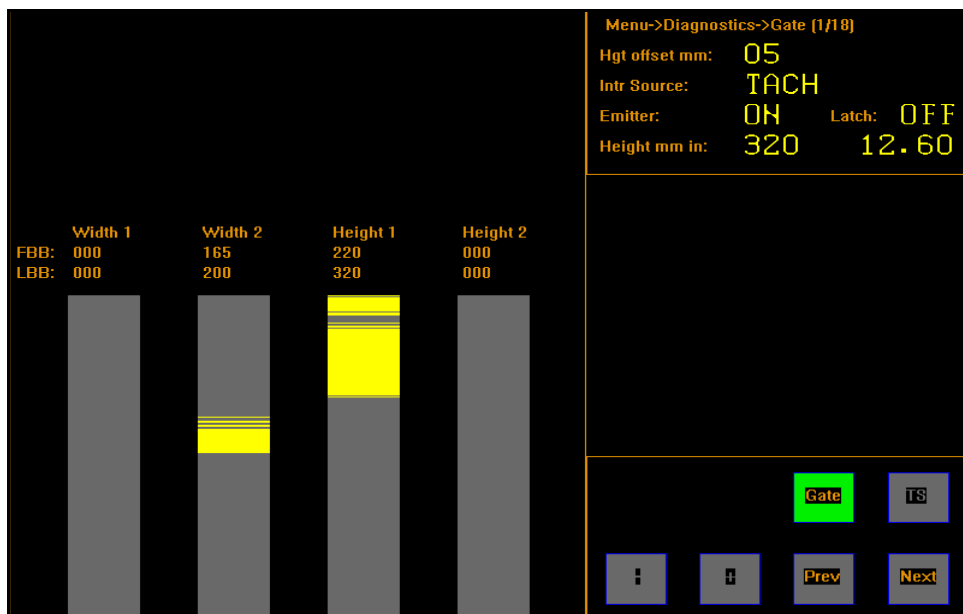

Figure 72
Figure 72 displays yellow lines on the LED beam bars, which means that light beams are being broken. This could mean that there is something on the CubiScan 225's platform or sensors. If the measuring area and sensors are clear (see "Cleaning the Sensors" on page 56) then the LED beams may not be functioning properly. The values of the first and last beams that are broken are listed for the width and height.
- If yellow lines are visible (as shown in Figure 72) even though there is no object in the measuring field or debris on the sensors, contact Quantronix Technical Assistance at +1 (801) 451-7000.